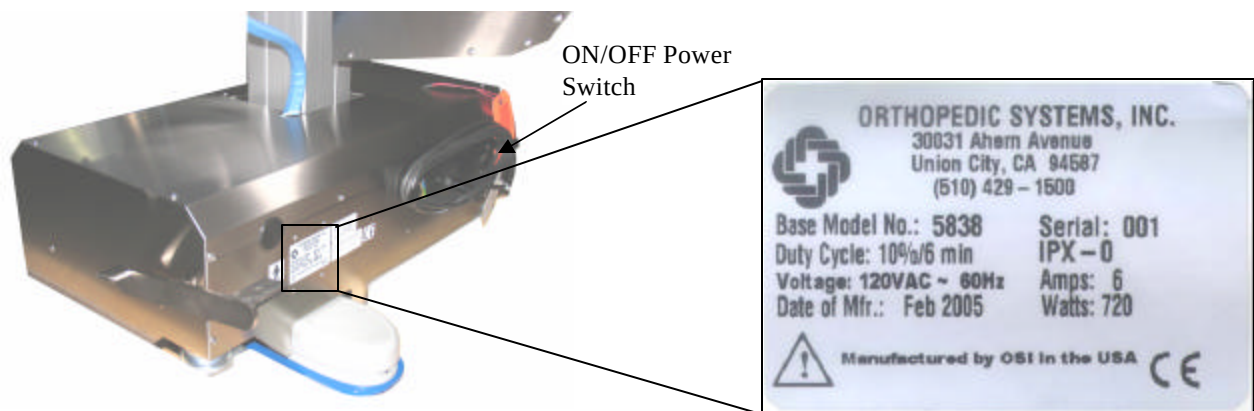

Figure 2
1. Verify the Andrews Table Model/Serial Number Identification Label. The label is located at the Pedestal End of the base (See Figure 2.) to confirm the serial number and the input power requirements.